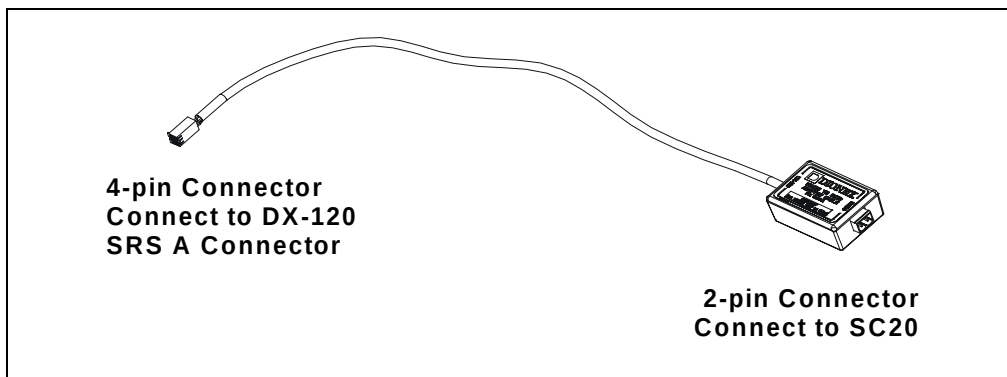
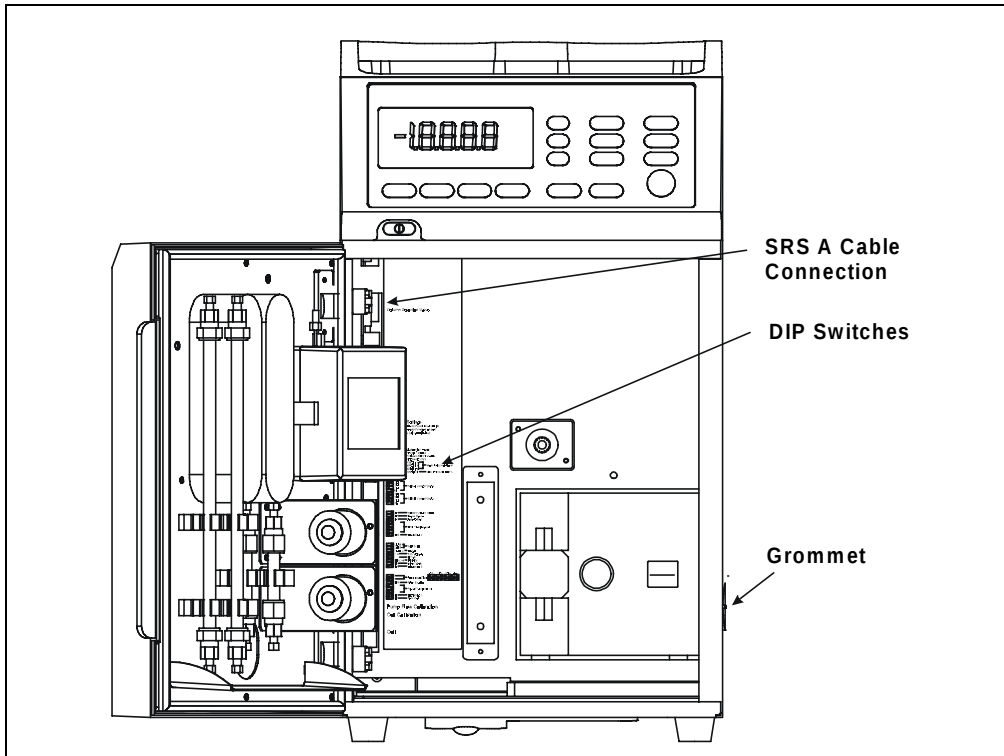

Figure 16. DX-120 Adapter
Figure 17. DX-120 SRS A Cable Connection
- a. Cables exit the DX-120 via a through hole in either side of the enclosure (see Figure 17). Open the DX-120 front door and press from the inside to pop out the grommet on the side nearest to the SC20's location.
1. Connect the 2-pin connector on the DX-120 adapter (see Figure 16) to the **CONTROL INPUT** cable you routed inside the DX-120 main compartment.
2. Plug the 4-pin connector on the DX-120 adapter (see Figure 16) into the SRS A connector inside the DX-120 main compartment (see Figure 17).